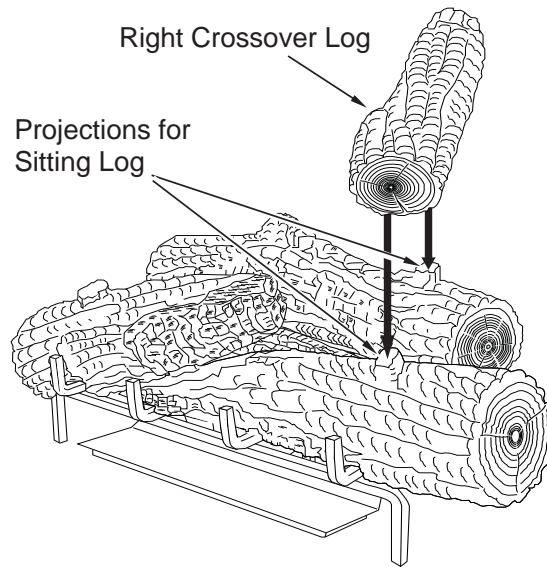

Figure 37 - Installing Right Crossover Log
5. Place the right crossover log onto the rear log and the right front log as shown in **Figure 37**. The right crossover log has notches in the bottom that will line up with the projections on the rear log and the right front log.